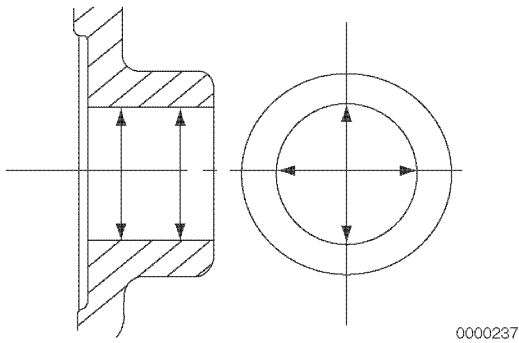

Figure 6-51
6. Measure the diameter of the wrist pin bore on both sides of the piston (**Figure 6-51**). See *Piston on page 6-10* for specifications. Record the measurements.